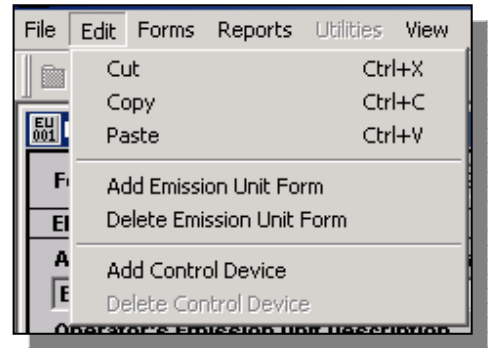

Figure 6-4: Edit Menu
1. Go to **Edit** on the menu bar and select **Add Emission Unit Form** (Figure 6-4).